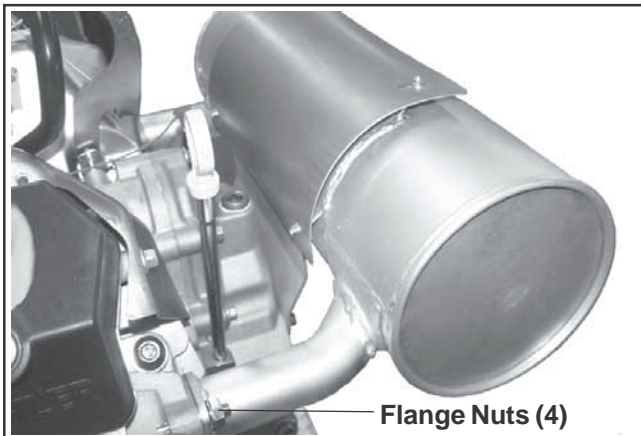

Figure 10-110. Installed Muffler.
1. Install the port liners (if equipped). Attach the muffler and secure with the four hex flange nuts onto the exhaust studs. See Figure 10-110. Torque the hex flange nuts to **24.4 N·m (216 in. lb.)**.